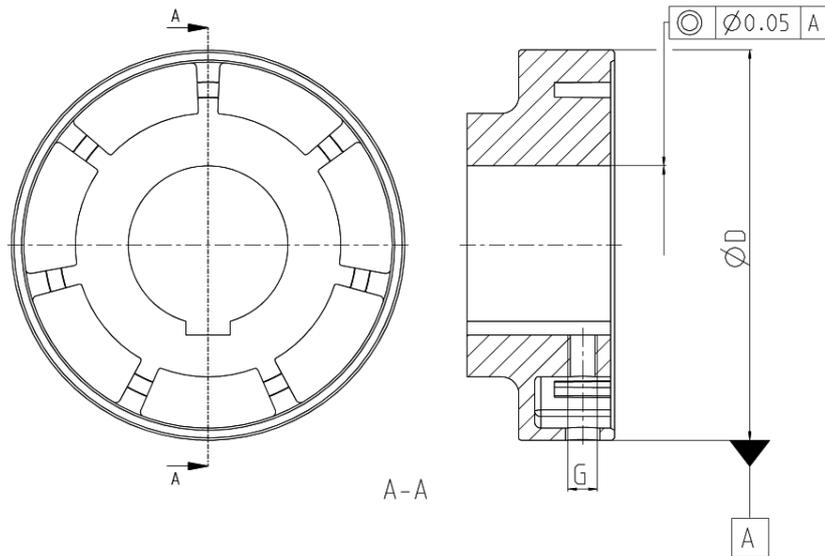

Figure 7.3: Specifications for the form and positional tolerance of the bore and position of the keyway nut
- the form and positional tolerances in accordance with DIN ISO 286 are adhered to (see figure 7.3).
If the hub is to be designed with a keyway nut, it is to be brought in between the cams as displayed in figure 7.3 or between bores for hub types 2 and 3. The design and inspection of the keyway connection falls to the operator and is his responsibility.